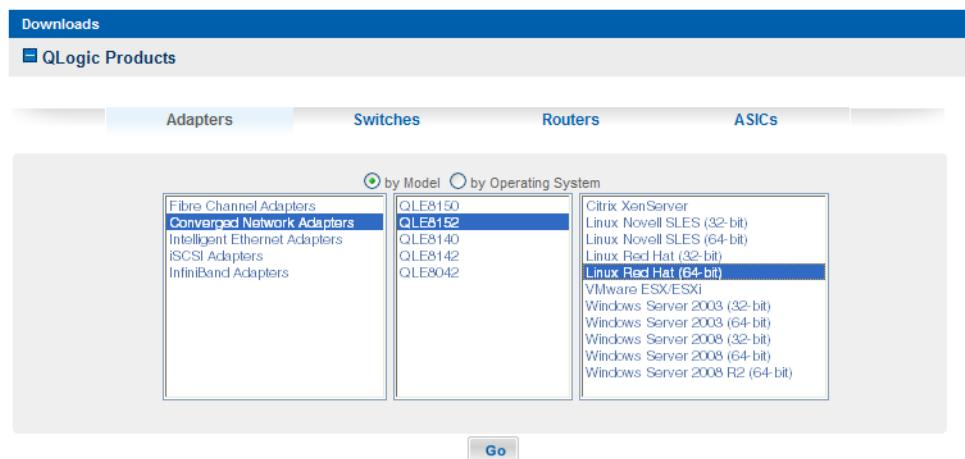

Figure 4-14. Select an Adapter and a Linux Operating System
6. Click the Linux operating system that is installed on the server, and then click **Go**. For example, in **Figure 4-14**, **Linux Red Hat (64-bit)** is selected for a QLE8152 adapter.